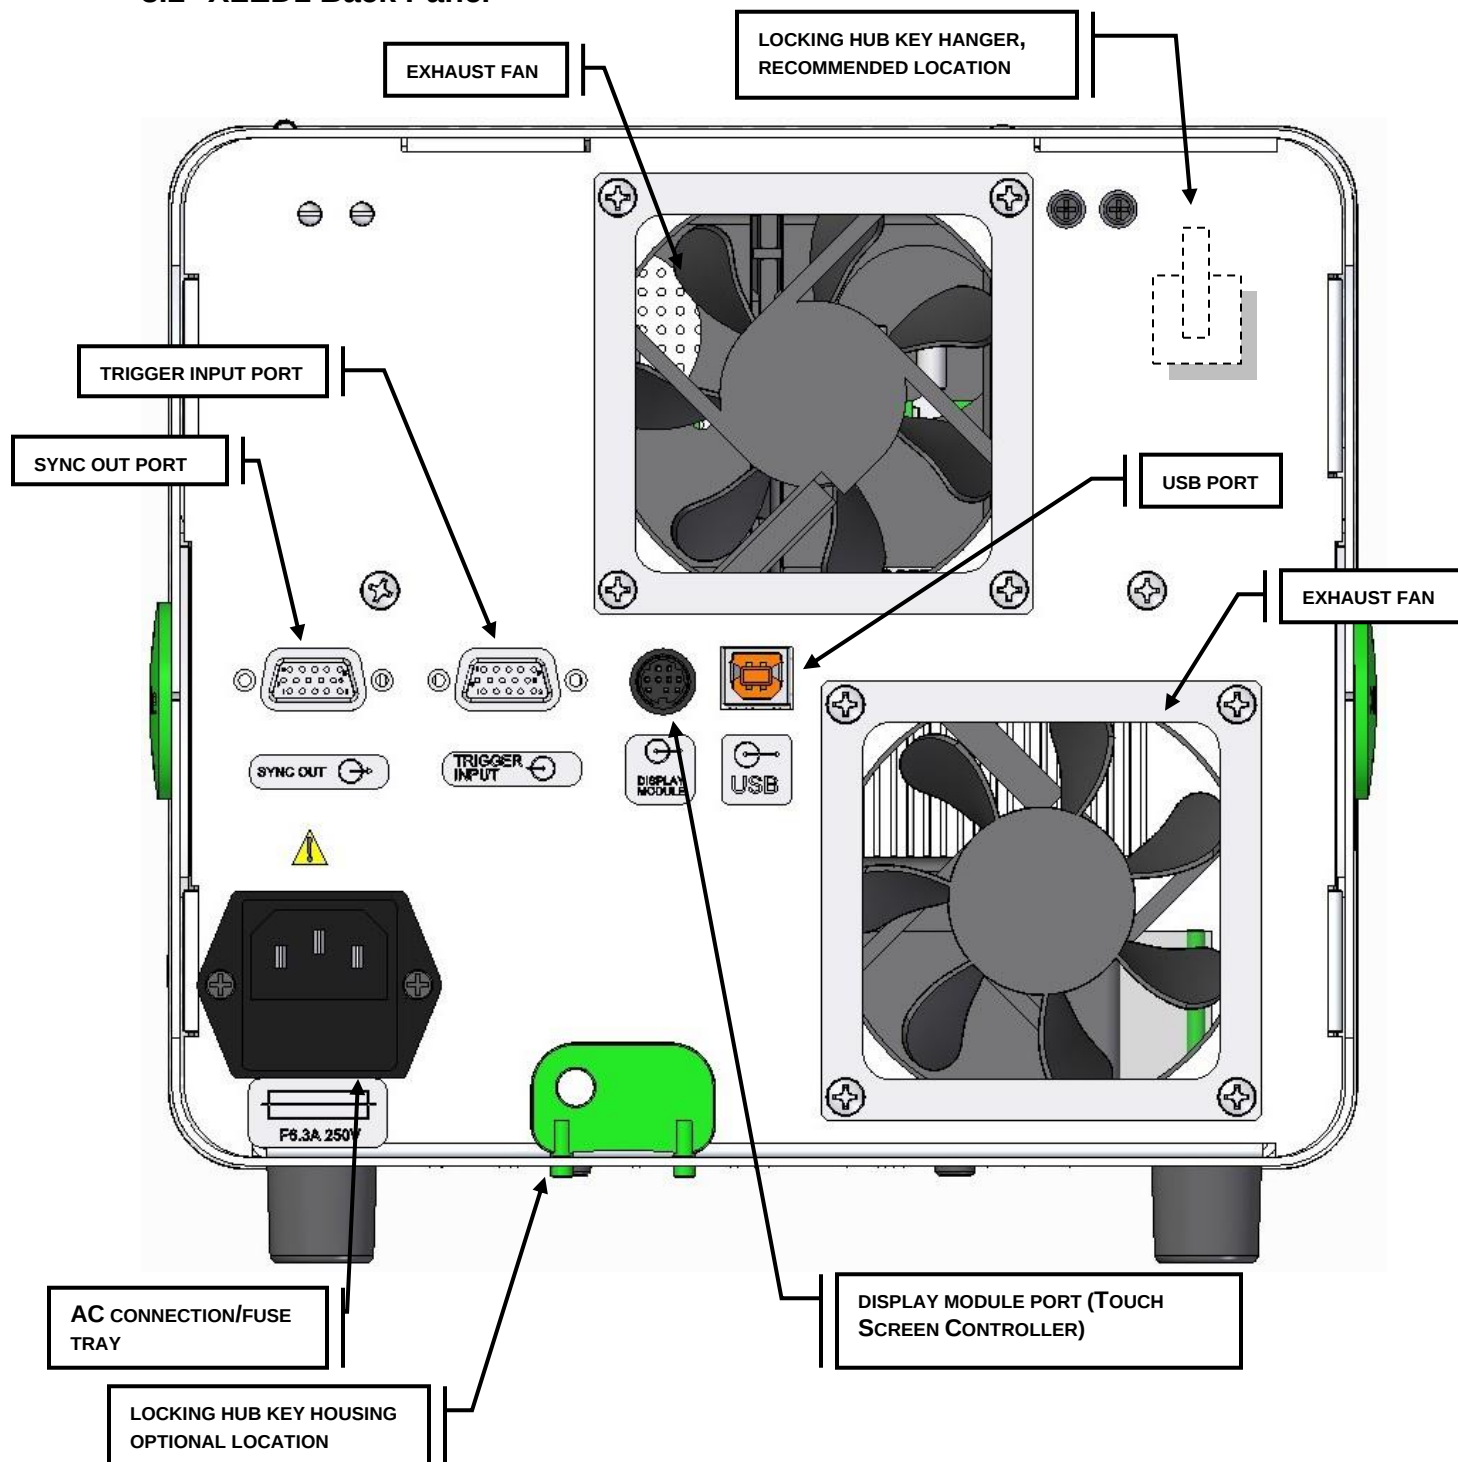

Figure 2 XLED1 Back Panel Image
Should the **X-Cite® XLED1 System** be used in a manner not specified by Excelitas Technologies, the protection provided by the equipment may be impaired. Do not attempt to connect the Touch Screen Controller to any type of electrical equipment other than the XLED1 main system as indicated in Figure 2 of this manual.
5. Locking Hub Key Hanger (refer to Figure 2 for install location)....	☐
Excelitas Technologies recommends installing the locking hub key hanger. Bend the flexible tang into a hook shape, peel off the protective backing and affix to the recommended location shown on the rear panel in Figure 2.
If purchased, connect the optional Touch Screen Controller to the display module connection provided at the rear of the XLED1 panel. Refer to Figure 2.
If Triggering is required, connect the 15pin HD-DB15 trigger I/O breakout cables to the trigger input and sync output connections located on the back XLED1 panel, refer to Figure 2.